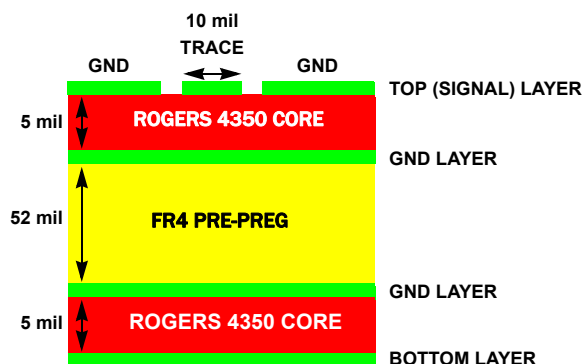

FIGURE 10. FOUR LAYER BOARD STACK-UP
- A four layer PCB board: Signal (top) layer, Thin-Dielectric, GND (2nd layer), Thick-Dielectric, GND (3rd layer), Thin-Dielectric, Signal (Bottom layer) is required to achieve 50Ω traces. The top and bottom thin-dielectric are Nelco 4000-13 or Rogers 4350 core type material. The center thick-dielectric is FR4 pre-preg material. Figure 10 illustrates the material and sequencing of the layers. The dimensions called out are those required to achieve 50Ω microstrip for the signal traces.